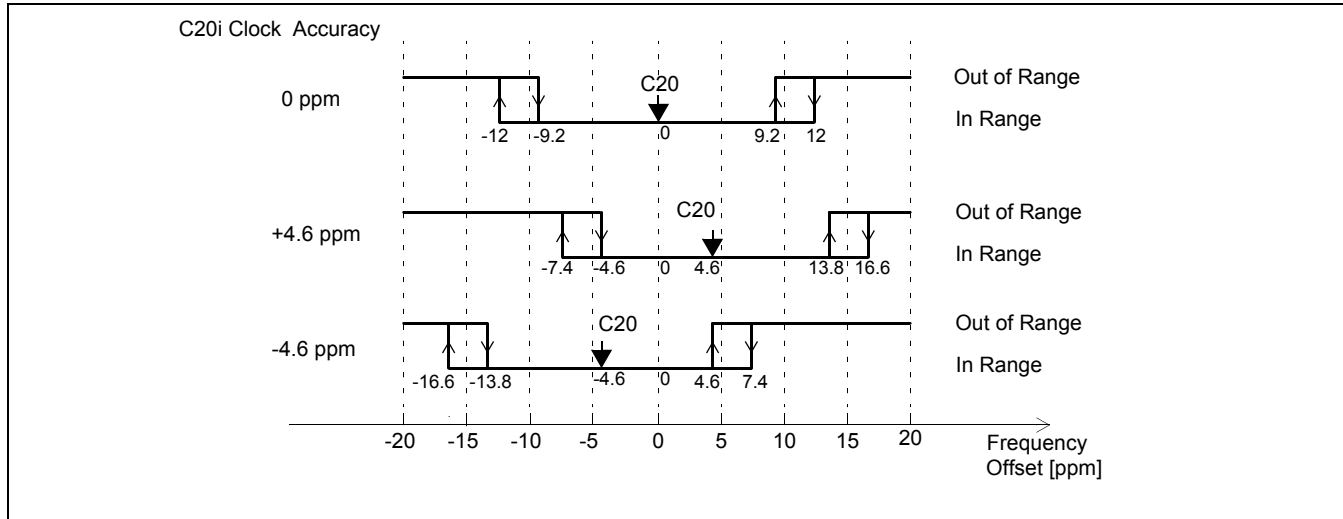

Figure 7 - Primary and Secondary Reference Out of Range Thresholds
- **Slow Response Detector (High Precision):** This detector detects if the primary reference is off its nominal frequency by more than  $\pm 12$  ppm. The frequency offset monitor updates internally every 10 sec and will change state after two matching measurements (PASS/PASS or FAIL/FAIL). This is in full compliance with the GR-1244-CORE requirement of 10 to 30 sec Reference Validation Time. This output returns to zero when the reference frequency is requalified within  $\pm 9.2$  ppm of the nominal frequency (monitor circuit has built-in hysteresis). In an extreme case, when over time the Master Clock oscillator drifts  $\pm 4.6$  ppm the switching thresholds will change as well, as is shown in Figure 7.